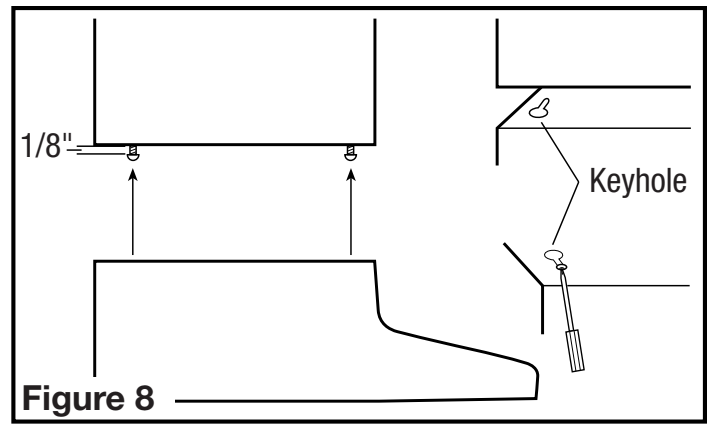

Figure 8
1. Install the 4 mounting screws at the previously marked locations. Leave approximately 1/8" clearance. Slide the hood in place through the keyhole slots and align the front of the hood so that it is flush with the front of the cabinets. Tighten all screws securely (**Figure 8**).